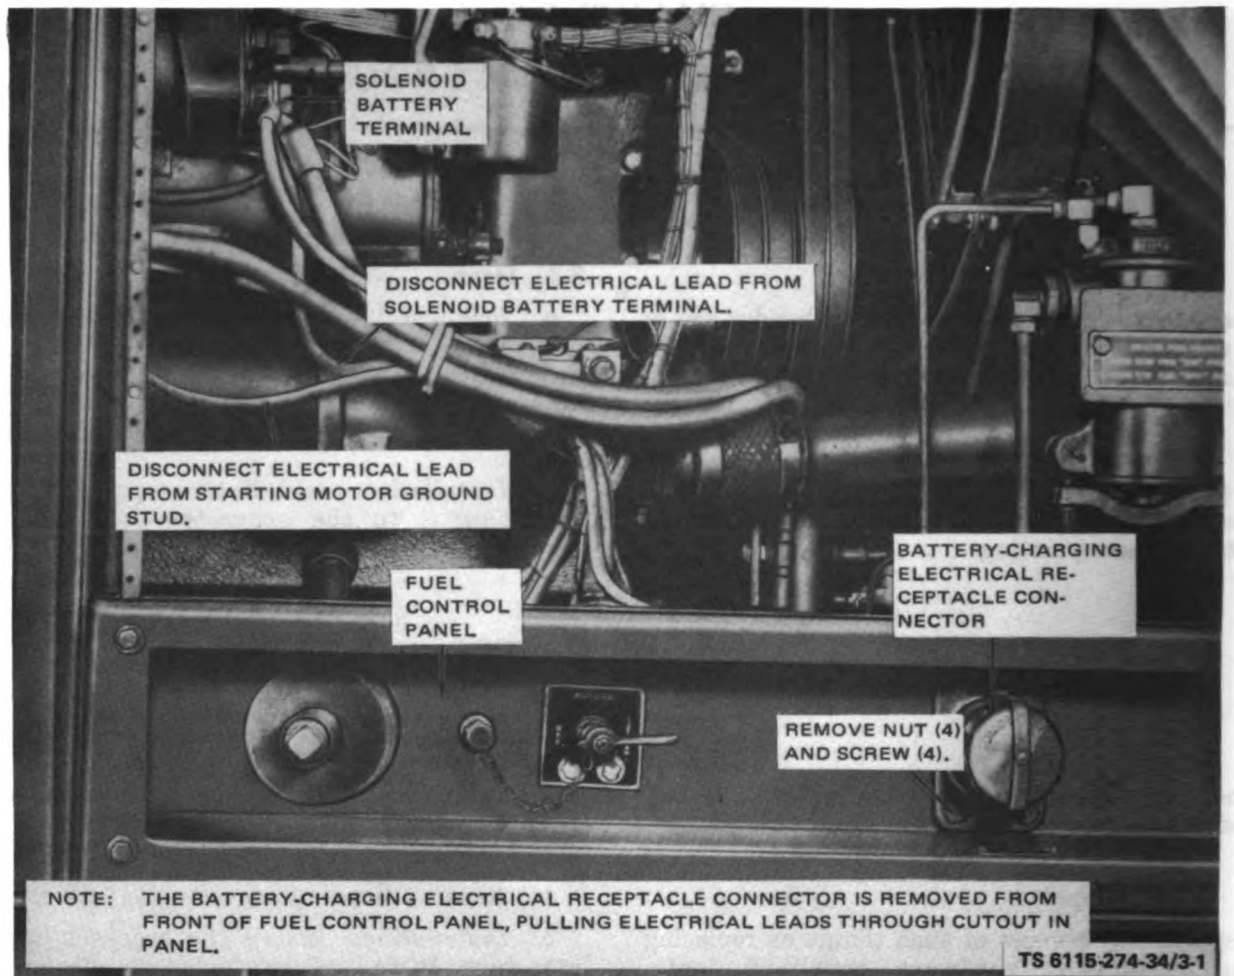
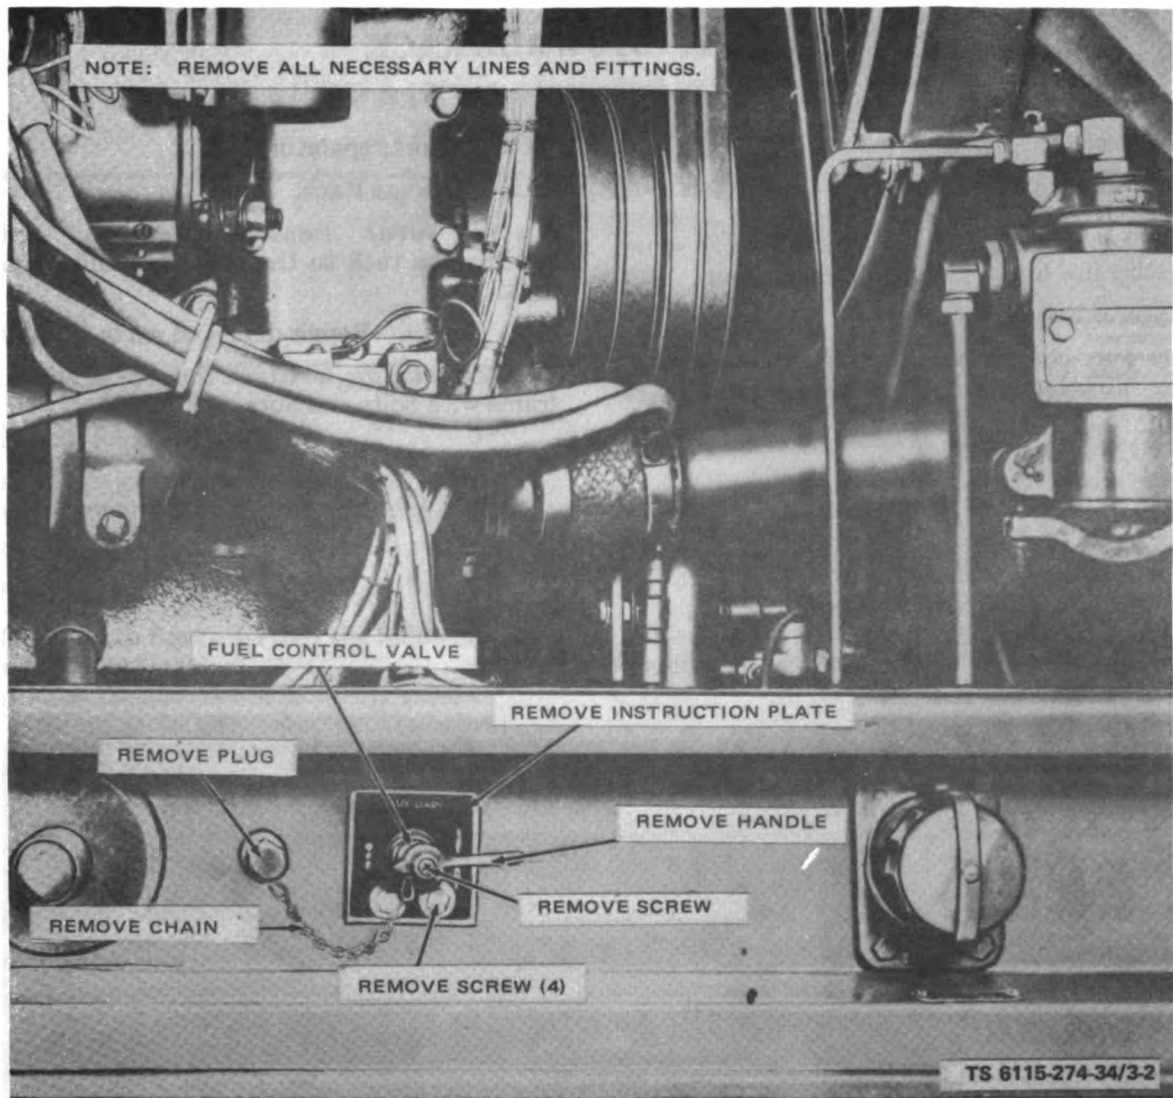

Figure 3-1. Battery-Charging Electrical Connector, Removal and Installation Receptacle
Figure 3-2. Fuel Control Valve, Removal and Installation
(2) The right rear panel must also have the canvas boot and connector nut removed.
(3) The right front panel also requires the removal of the battery-charging electrical receptacle connector and the fuel control valve.
(4) The battery-charging electrical receptacle connector is removed in accordance with figure 3-1 and the following steps.
(5) Disconnect electrical leads from solenoid battery terminal and starting motor ground stud.
(6) Remove screws and nuts holding connector and remove connector from front of panel by pulling electrical leads through cutout in panel.
(7) The fuel control valve is removed in accordance with figure 3-2 and the following steps.
(8) Remove all necessary lines and fittings.
(9) Remove plug and chain.
(10) Remove screw and handle.
(11) Remove screws securing instruction plate and remove plate.
(1) Refer to figure 3-2 and attach instruction plate with screws to fuel control panel.
(2) Install handle with screw.
(3) Install plug and chain.
(4) Connect lines and fittings.
(5) Refer to figure 3-1 and install connector by feeding electrical leads through cutout in panel and attach with screws and nuts.
(6) Connect electrical leads to solenoid battery terminal and starting motor ground stud.
(7) When installing the right rear panel the connector nut and canvas boot are installed on the load connector.
(8) Panels are attached to frames with screws, washers and nuts.